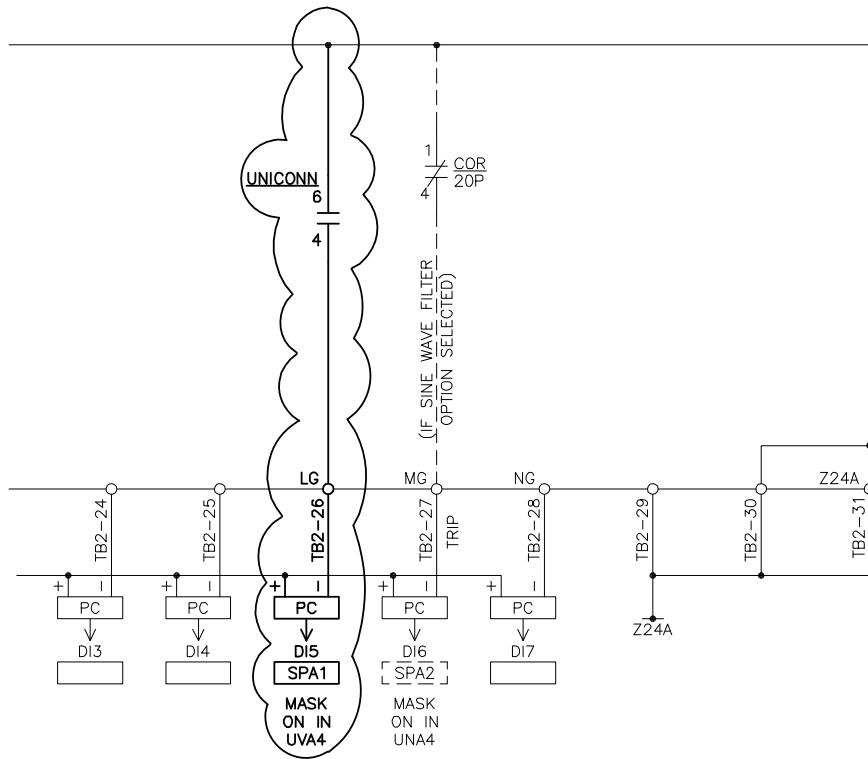
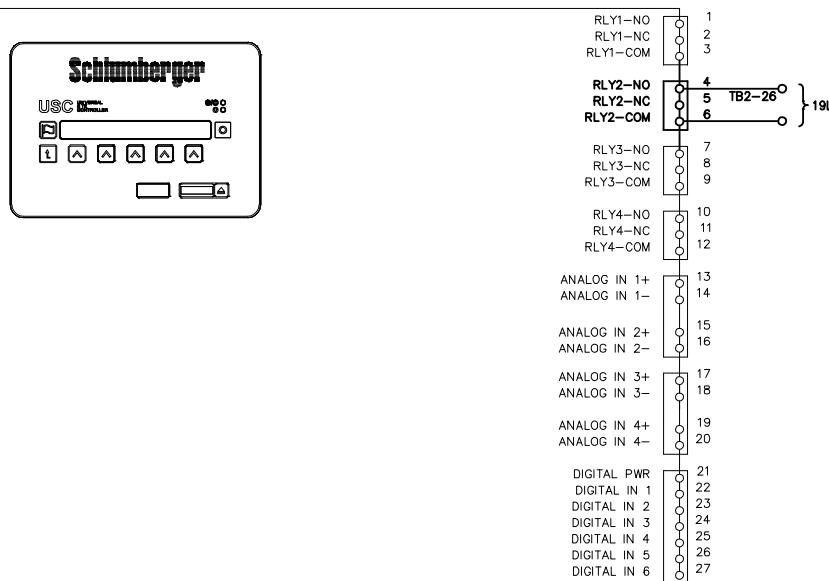

Figure 6-48: UniConn Digital out at the MVD
Figure 6-49: UniConn RLY2 to TB2-26 in the MVD
1. The MVD should come pre-wired from the factory for the UniConn RLY2 to be connected to the MVD digital input 5, as shown in Figure 6-48 and Figure 6-49. Ensure this is the case and proceed to the next step.